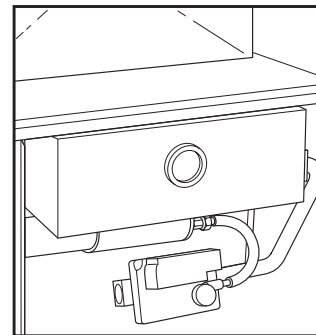

Fig. 36 - Remove Burner Enclosure Front
2. Remove burner enclosure front. (See Fig. 36.)